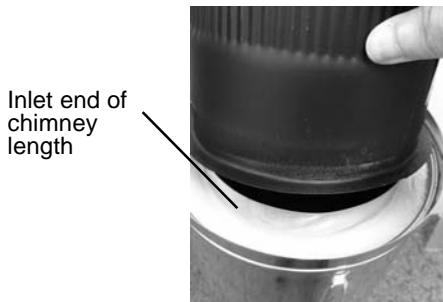

Figure 2
1. PLACE SPA Stub (flange toward inlet end) over the inner liner on the inlet end of the chimney length until flange is snug against plastic (Figures 2 and 3).